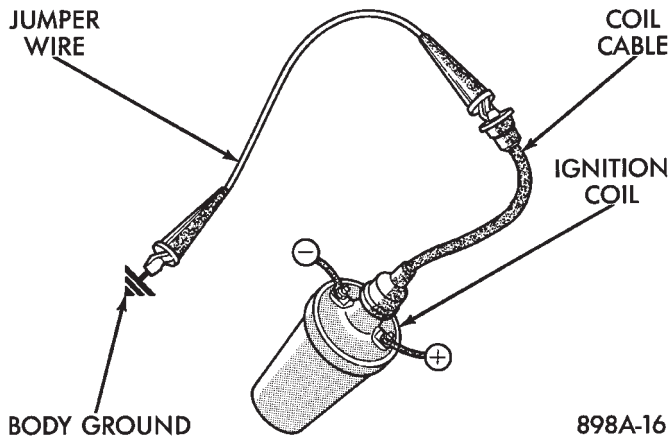

Fig. 6 Ground Ignition Coil Cable
• **VEHICLES WITH CONVENTIONAL DISTRIBUTORS:** Disconnect the ignition coil cable from the distributor cap. Connect a suitable jumper wire between the coil cable end-terminal and a good body ground (Fig. 6).
(1) Disable ignition system as follows:
- **VEHICLES WITH CONVENTIONAL DISTRIBUTORS:** Disconnect the ignition coil cable from the distributor cap. Connect a suitable jumper wire between the coil cable end-terminal and a good body ground (Fig. 6).
- **VEHICLES EQUIPPED WITH A CONVENTIONAL DISTRIBUTOR:** Disconnect coil wire from distributor cap center tower. Secure wire to a good ground to prevent engine from starting (Fig. 6).